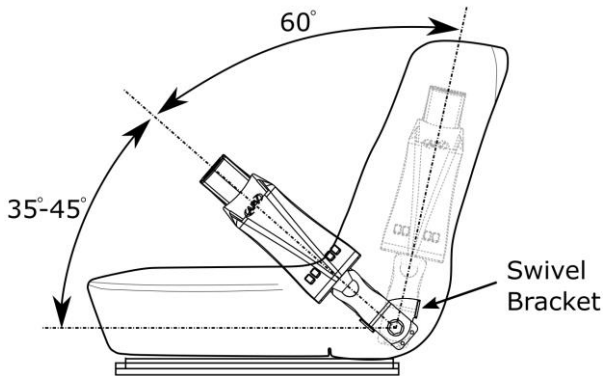

Figure 1: Recommended Installation Angle
3. Adjust the swivel bracket to the desired range of motion (refer to Figure 1).